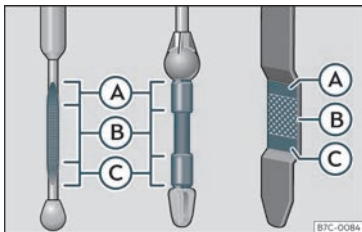

Fig. 204 Engine oil dipstick.
- Then pull it out once more and check the oil level >>> Fig. 204. Top up with engine oil if necessary.
- When the oil level reaches at least zone >>> Fig. 204 (B), unscrew the engine oil filler cap carefully >>> ⚠.
If the oil level is above area»» Fig. 204 , do not start the engine. This could result in damage to the engine and catalytic converter. Contact a specialised workshop.
The oil level must never be above zone »» Fig. 204 . Otherwise oil can be drawn in through the crankcase breather and leak into the atmosphere via the exhaust system.